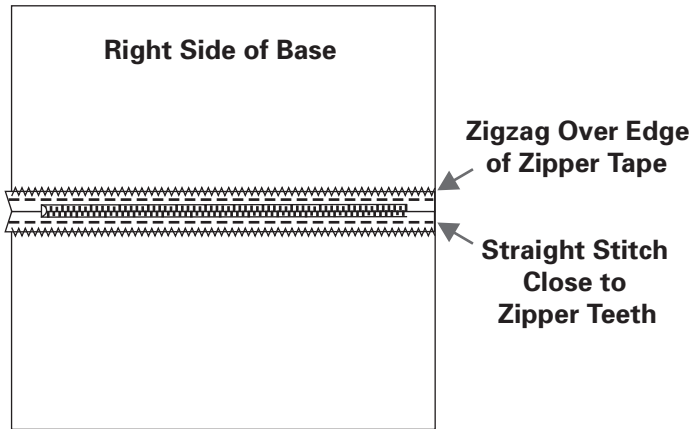

Fig. 13-2
5. With the zipper facing up, straight-stitch the zipper in place close to the zipper teeth. Then zigzag-stitch the outer edge of the zipper tape to the fabric. (Fig. 13-2) Clip the basting threads that are closing the seam, and unzip the zipper.